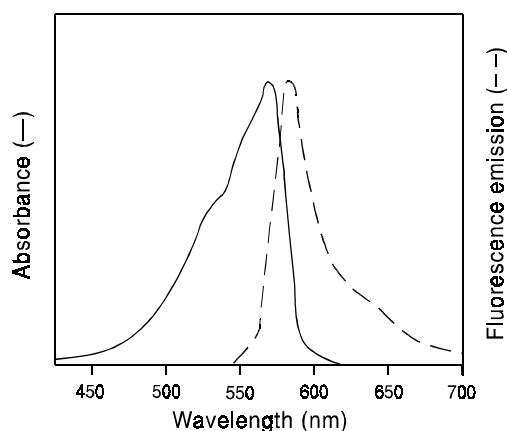

Figure 1. Normalized absorption and fluorescence emission spectra of resorufin, the product of the Amplex Red reagent.
The Amplex® Red Phospholipase D Assay Kit provides a sensitive method for measuring phospholipase D (PLD) activity *in vitro* using a fluorescence microplate reader or fluorometer. In this enzyme-coupled assay, PLD activity is monitored indirectly using 10-acetyl-3,7-dihydrophenoxazine (Amplex Red reagent), a sensitive fluorogenic probe for H₂O₂.^{1,2} First, PLD cleaves the phosphatidylcholine (lecithin) substrate to yield choline and phosphatidic acid. Second, choline is oxidized by choline oxidase to betaine and H₂O₂. Finally, H₂O₂, in the presence of horseradish peroxidase, reacts with Amplex Red reagent in a 1:1 stoichiometry to generate the highly fluorescent product, resorufin.^{1,3} Because resorufin has absorption and fluorescence emission maxima of approximately 571 nm and 585 nm, respectively (Figure 1), there is little interference from autofluorescence in most biological samples. The kit can be used to continuously assay PLD enzymes with near-neutral pH optima, whereas PLD enzymes with acidic pH optima can be assayed in a simple two-step procedure. Experiments with purified PLD from *Streptomyces chromofuscus* indicate that the Amplex Red PLD Assay Kit
2.8 Measure the fluorescence in a fluorescence microplate reader using excitation in the range of 530–560 nm and emission detection at ~ 590 nm (see Figure 1).
3.11 Measure the fluorescence in a fluorescence microplate reader using excitation in the range of 530–560 nm and emission detection at ~590 nm (see Figure 1).